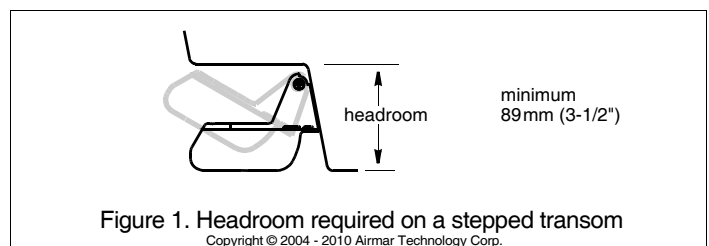

Figure 1. Headroom required on a stepped transom
- Allow headroom space above the bracket for it to release and rotate the multisensor upward (see Figure 1).